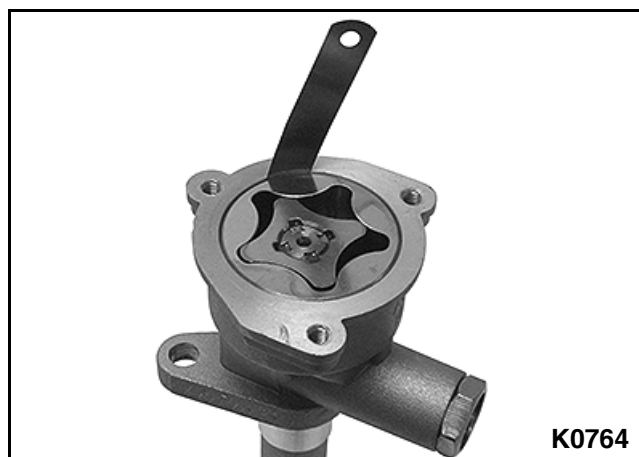

Figure 3-191
4. Use a thickness gauge to measure the clearance between the driven rotor and pump body. **See Figure 3-191.**